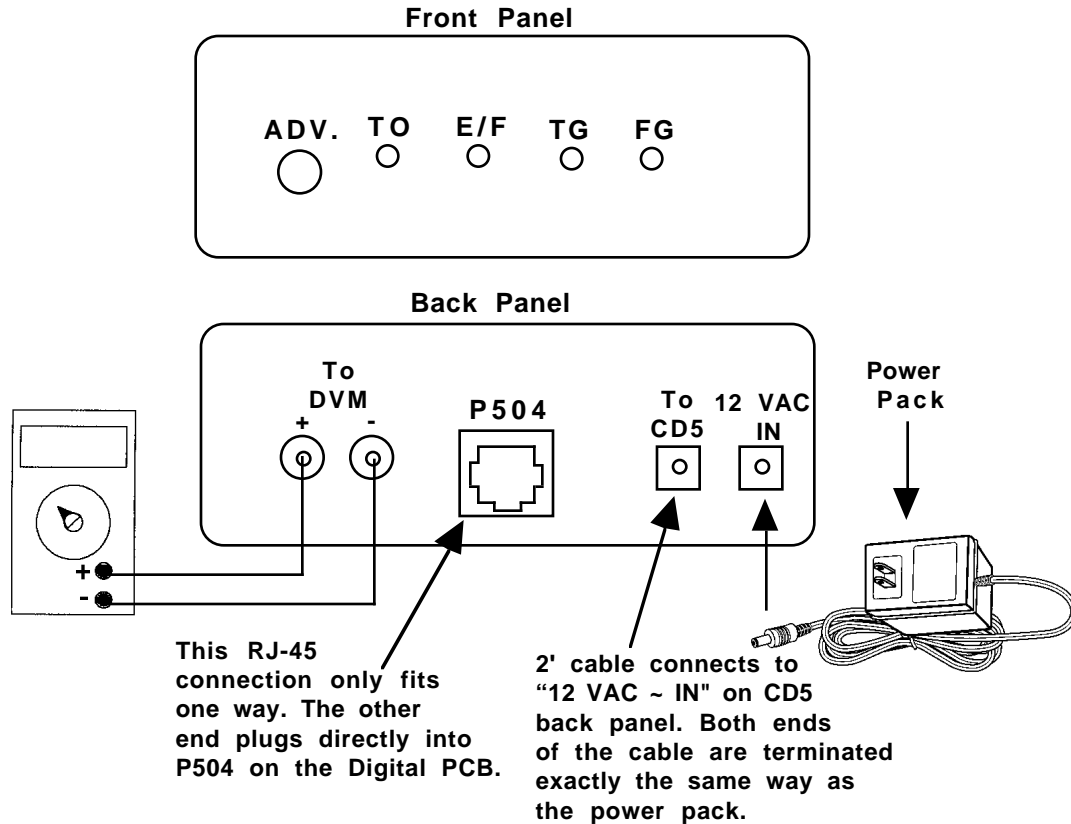
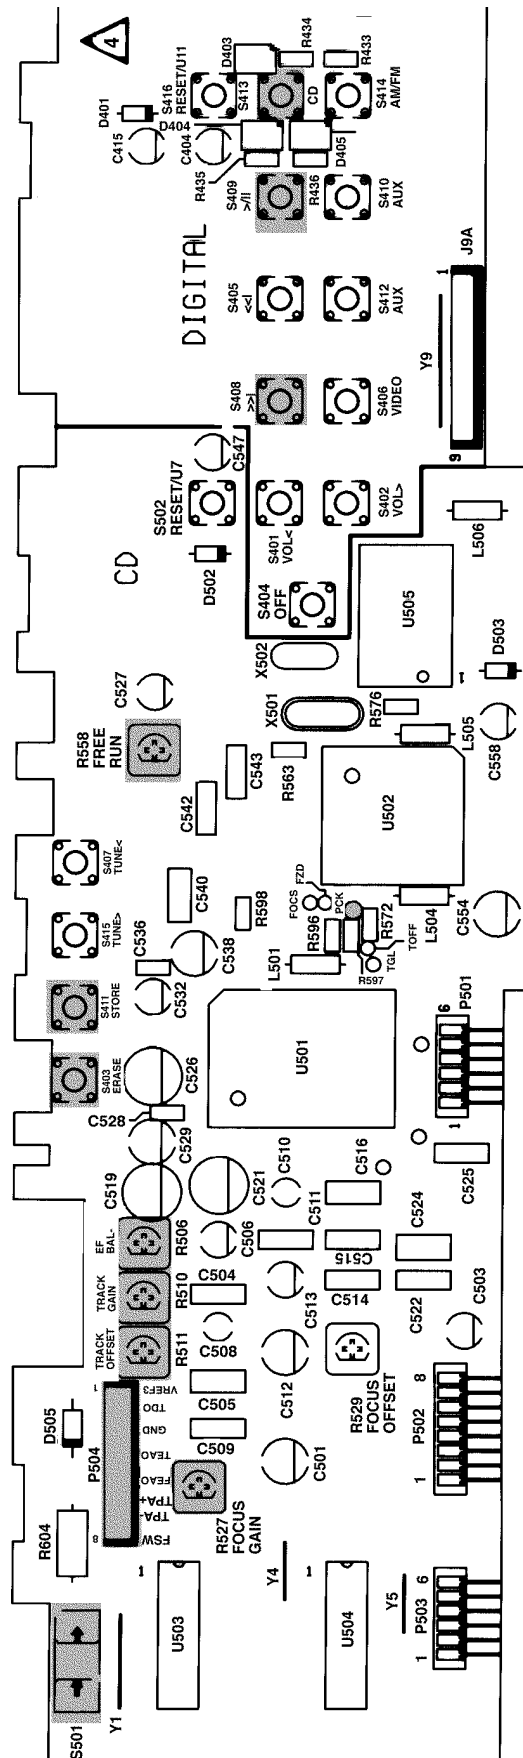

Figure 11. CD Alignment Fixture and Test Setup
Figure 13. Digital PCB Adjustment Locations
**Note:** Some of these procedures require the use of a CD alignment fixture (P/N 176318). Alternate procedures that do not require a fixture begin on page 30. Refer to Figure 11, CD Alignment Fixture Test Setup. The fixture is required unless otherwise specified. Refer to Figure 13 for adjustment locations.